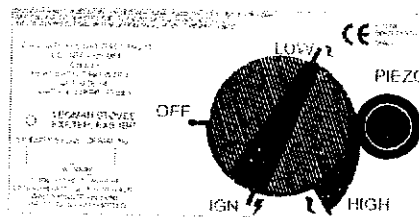

Fig. 13 – Low output.
1. Ignite pilot as shown in 11 (i), turn in a Anti clockwise direction to "LOW" setting (Fig. 13).